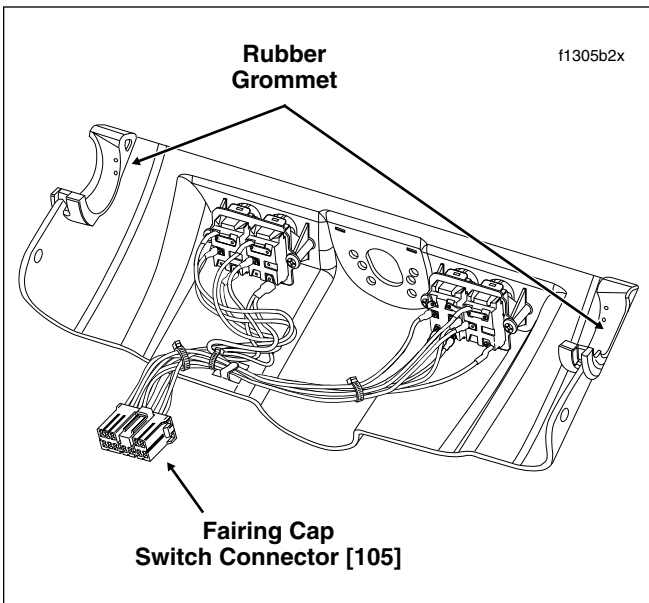

Figure 2-163. Fairing Cap Assembly (FLHX, FLHT/C/U)
4. Remove the fairing cap from the motorcycle. See Figure 2-163.
1. Verify that the rubber grommets are installed on each side of the fairing cap. Barbs on cap fit into holes in grommets. See Figure 2-163.